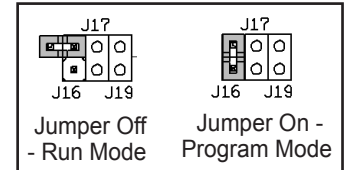

Fig. 13: J16 Program Jumper
1. Remove cover and install the shunt jumper across the J16 pins (see Fig. 13).